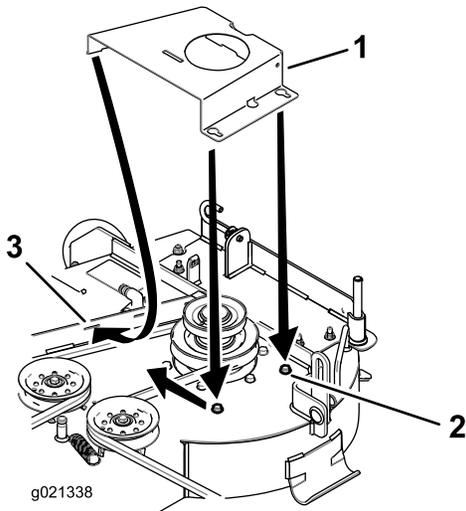

Figure 9
4. For the machines with belt-cover knobs (Figure 3), install the bolts used for the bracket. Refer to Figure 9 to use the bolt heads for the new metal-belt cover.
- 7. Slide the metal belt cover forward so the front tabs are in the slots and the bolt heads slide into the key slots (Figure 9).